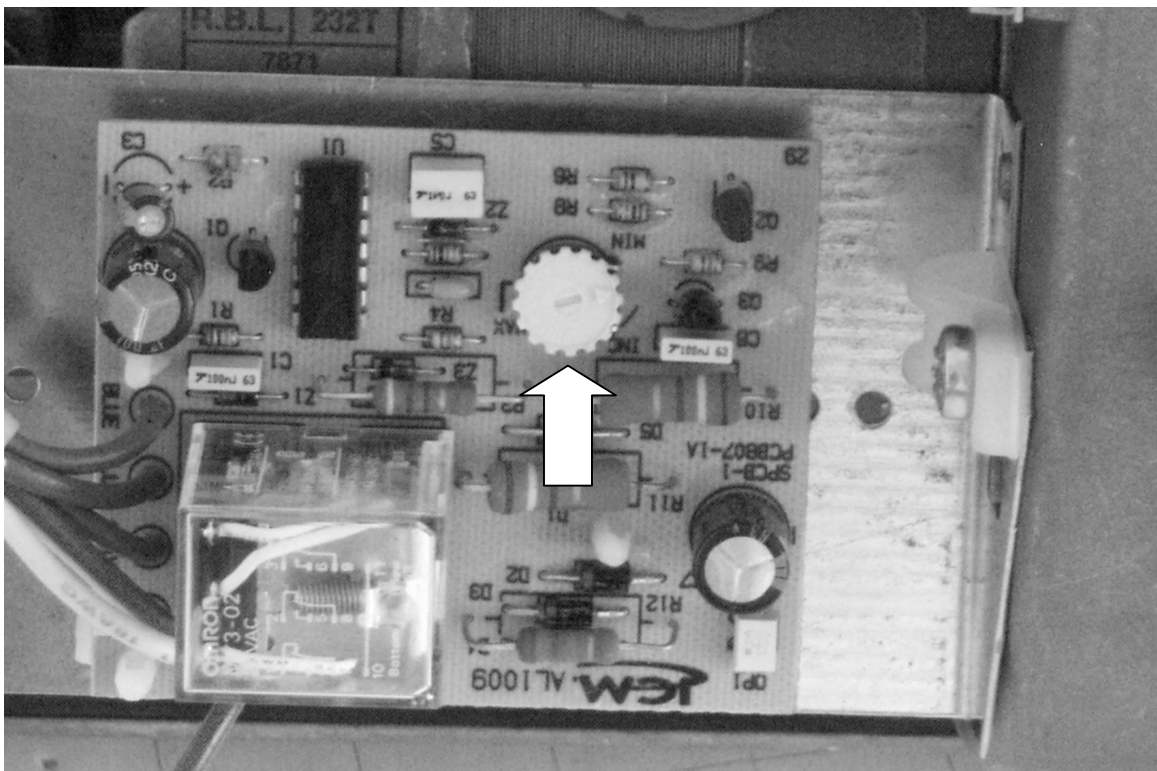

Figure 6
27. The timer may be adjusted by rotating the small white dial that is located to the right and slightly above the relay cube, **Figure 6**. The post-purge timing of the burner can be increased by turning the dial clockwise and reduced by turning the dial counter-clockwise. The timing of the post-purge is adjustable from 10 seconds and 5 minutes.